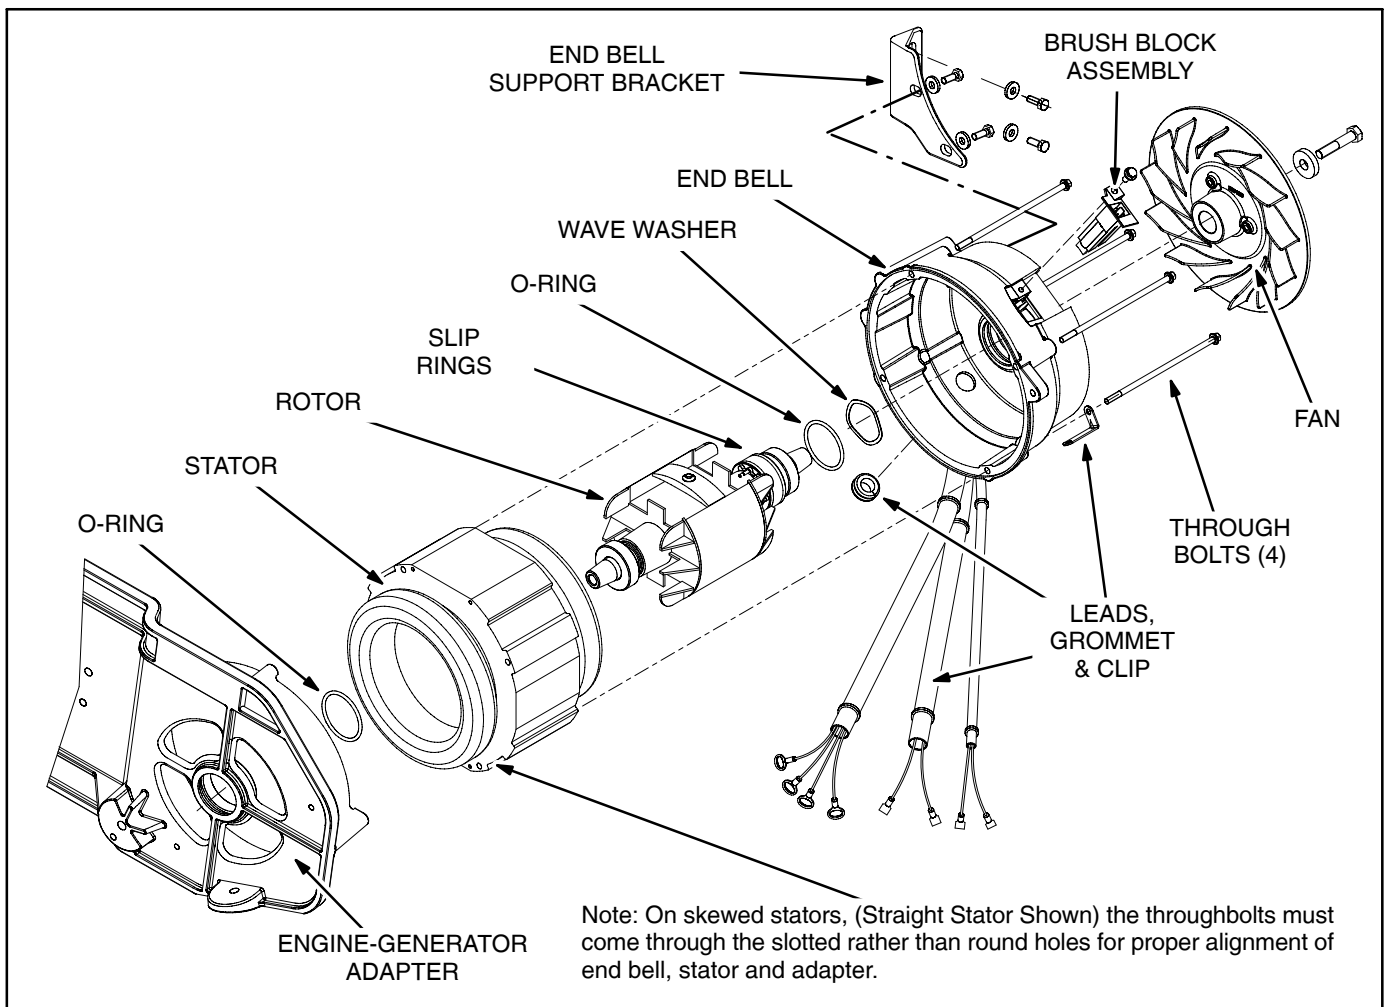

FIGURE 6-1. GENERATOR
These are 2-bearing, belt-driven, 2-pole revolving-field generators with brushes and slip rings (Figure 6-1). Output voltage is regulated by microcontroller-based genset controller A1 (Page 5-1).
3. Remove the brush block (Figure 6-1).
Note: **Figure 6-1 shows a straight stator and the through bolts lined up to pass through round holes in the stator laminations. On models with skewed stators the through bolts must pass through slotted holes for the end bell, stator and adapter to line up properly.**